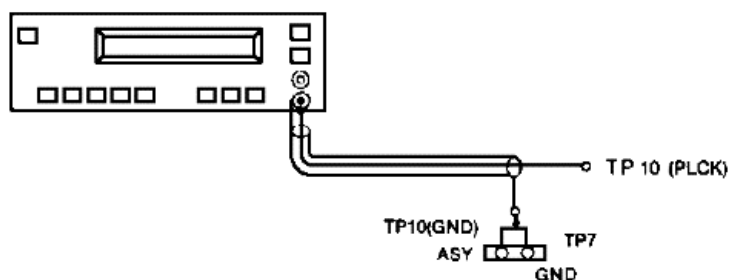

FIGURE 30-46 How to connect the frequency counter for PLL-VCO adjustment in the Realistic portable CD player.
- 1 Put the unit into Stop mode (Fig. 30-46).